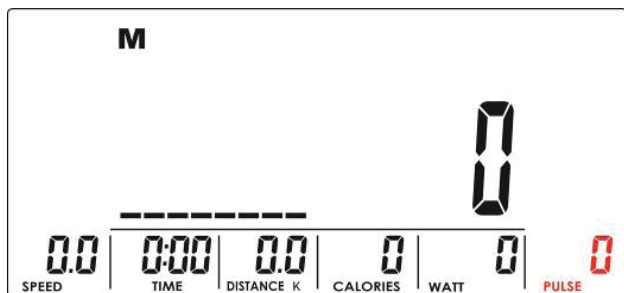
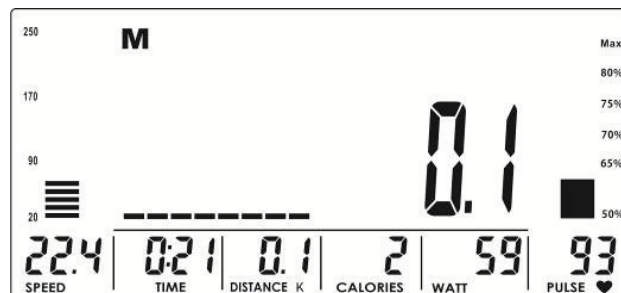
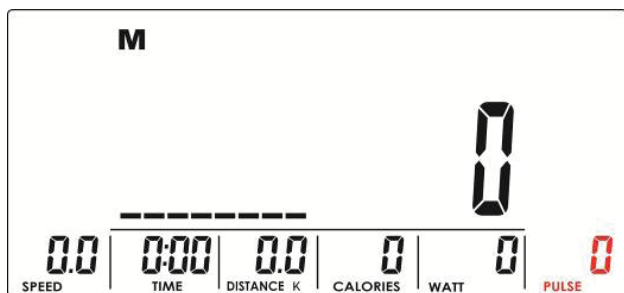

Fig. 23
Fig. 24
Fig. 25
4. The LCD screen displays the BMI (fig. 23), the fat percentage (FAT%, fig. 24), and the body fat symbol (BODY FAT, fig. 25).